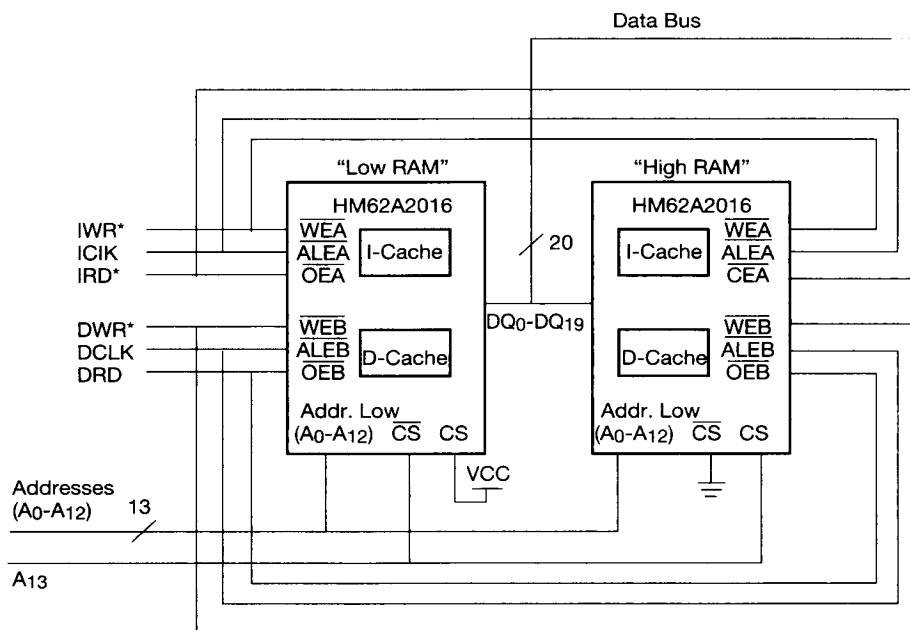

Figure 1. 16k x 20 x 2 Cache SRAM from two 8K x 20 x 2 Cache SRAMs
Each HM62A2016 has a latched active high chip select input (CS) as well as an active low input ($\overline{\text{CS}}$). Depth expansion is achieved by connecting address line (A13) into CS and $\overline{\text{CS}}$ inputs of two HM62A2016's and grounding or tying to VCC the other remaining chip select of each device, as shown in figure 1. Corresponding (A or B) control inputs (OE, WE, and ALE) of depth-expanded HM62A2016's should be tied together.